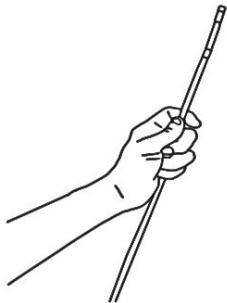

Figure 7-4
- 1) Observe whether the outer material of the entire insertion tube is intact ( as shown in Figure 7-4 ) .